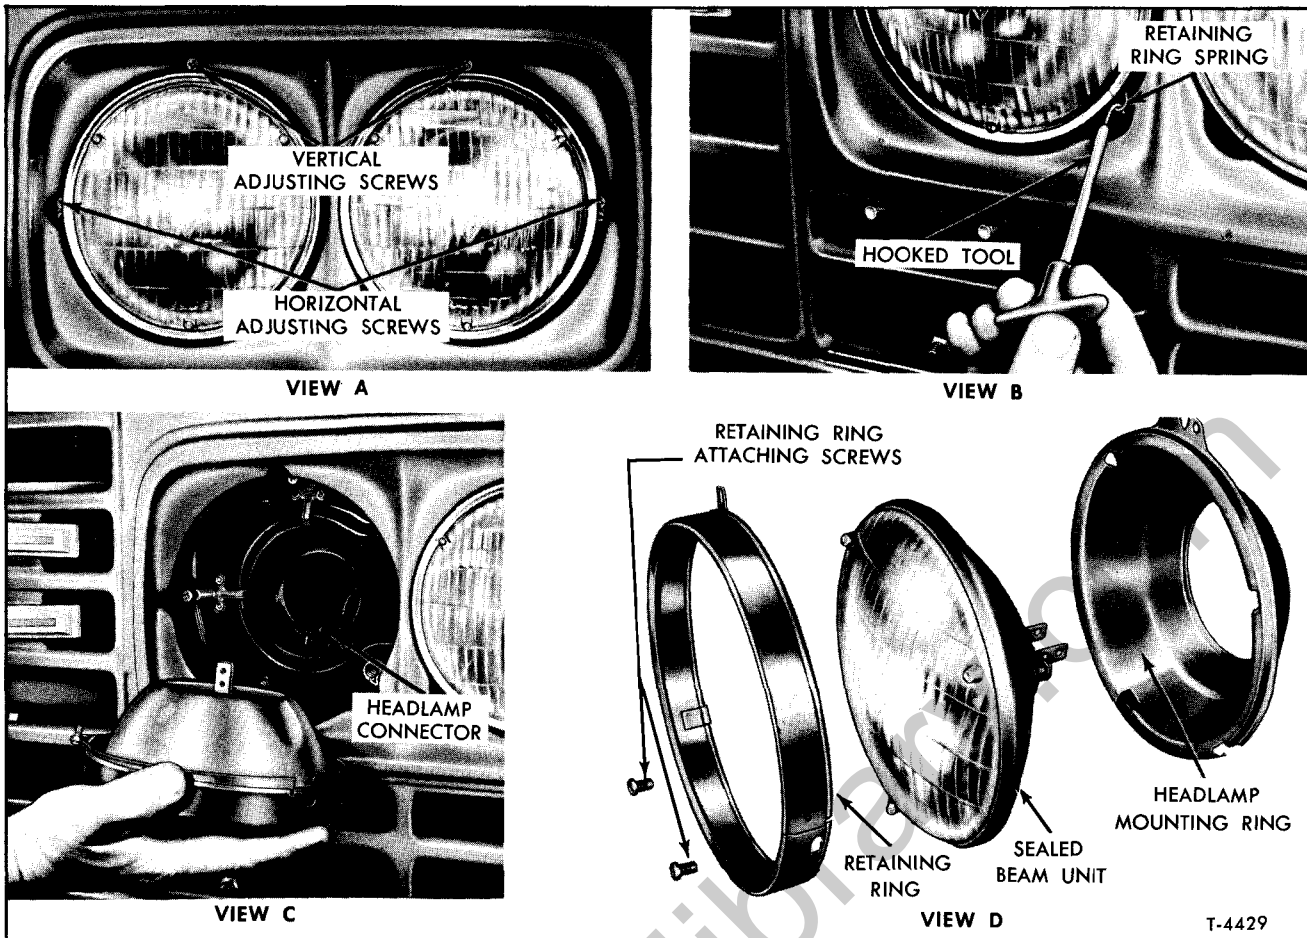
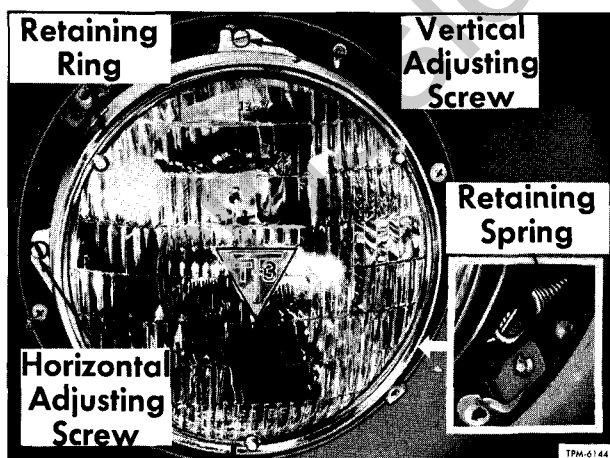

Figure 23—Dual Sealed-Beam Unit Replacement
Figure 24—Single Sealed-Beam Unit Replacement
normal average load it will be carrying during the majority of its operation. Tires should be uniformly inflated to recommended pressure when adjusting headlight beams. Beam adjusting screws are identified in View A, figure 23, for dual units and in figure 24 for single units.
Removal (Fig. 23)
Installation (Fig. 23)
Removal (Fig. 24)
release retaining spring from slot in retaining ring (inset, fig. 24).
Installation (Fig. 24)
3. Using a hooked tool, pull out on retaining spring and engage in slot near bottom of retaining ring (inset, fig. 24).